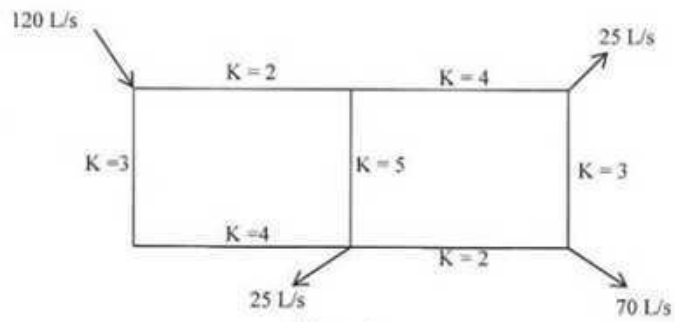

Figure 9
- (c) Explain Reynolds experiment in brief to distinguish between laminar and turbulent flow with a sketch. (6)
8. (a) If the flows into and out of a two-loop pipe system are as shown in Figure 9, determine the flow in each pipe. The  $k$ -values for each pipe are given in the figure. Use Hardy Cross method. (10)